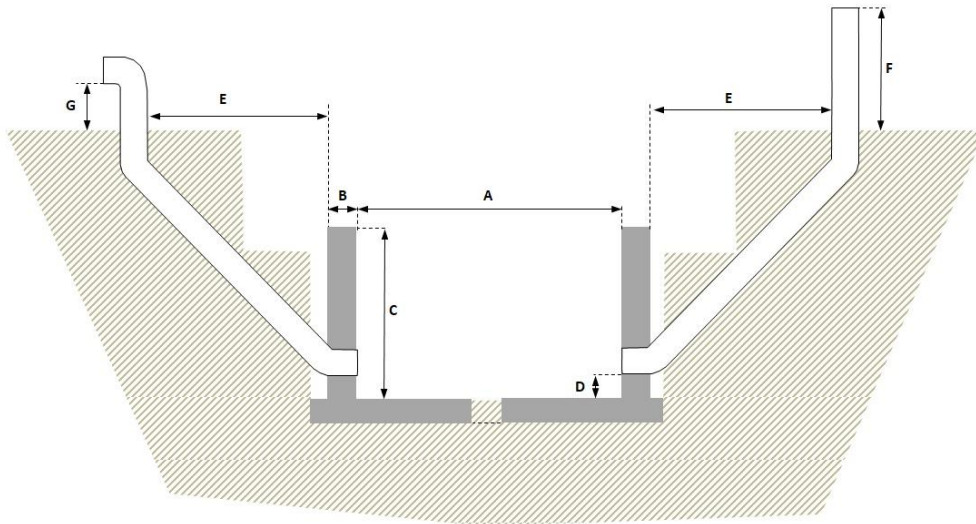

Figure 9 Masonry (1)
1. Construction of the lower part of the digester inner wall (Figure 9). The masonry is to reach the height of the concrete foundation of the water seal. The different pipes are inserted in the wall during construction.